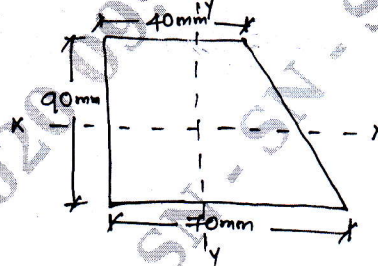

Fig. Q2 (b)
- b. Find moment of inertia along X-X axis as indicated in the Fig. Q2 (b). (10 Marks)